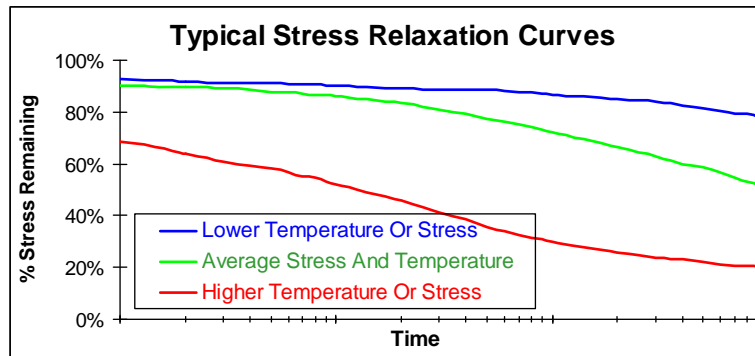

Figure 1. Typical Stress Relaxation Curve
**Stress relaxation** can be plotted as the percent stress remaining versus time (see Figure 1). The initial stress would be 100% when the time equals zero. However, because the curves shown are plotted on a logarithmic scale, there is no zero point. As the time increases, the amount of stress remaining will fall. At higher temperatures, the rate of decrease will be more rapid. Additionally, a higher initial stress level will induce faster relaxation. Generally, if the initial stress level in the material is less than 10% of its yield strength, stress relaxation is not a concern. Between 30% and 80% of the yield strength, there is only a small increase in the rate of stress relaxation. Beyond 80%, the stress relaxation rate can be significantly higher, depending on the base metal.